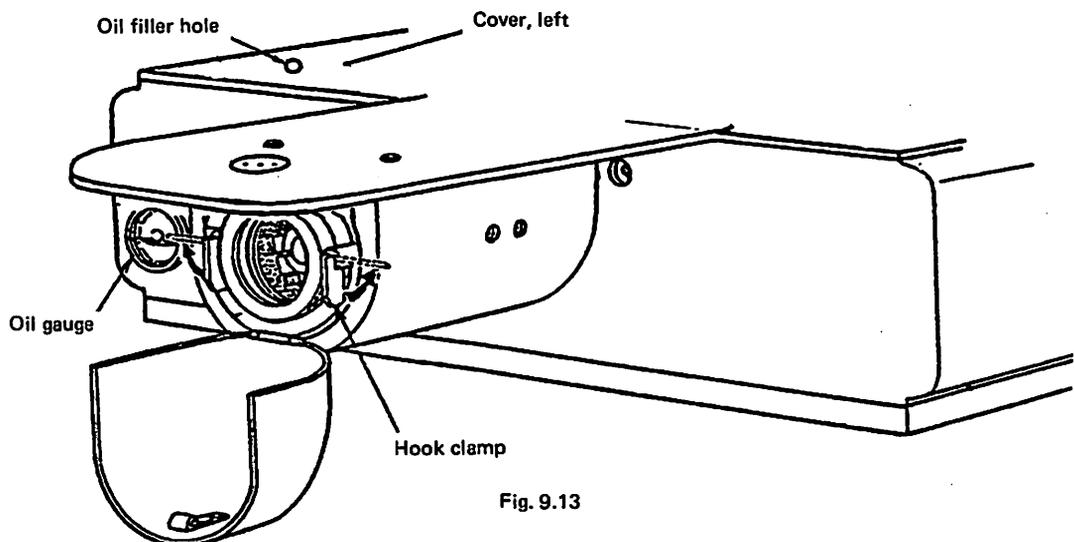

Fig. 9.13
The inner hook can be removed by moving the hook clamp in the direction of arrow to horizontal position, as shown in Fig. 9.13.
- (2) Pour lubricating oil through the oil filler hole in the bed, shown in Fig. 9.13, until the oil level reaches the red mark on the oil gauge. Note that too much oil may spill when the head is leaned.